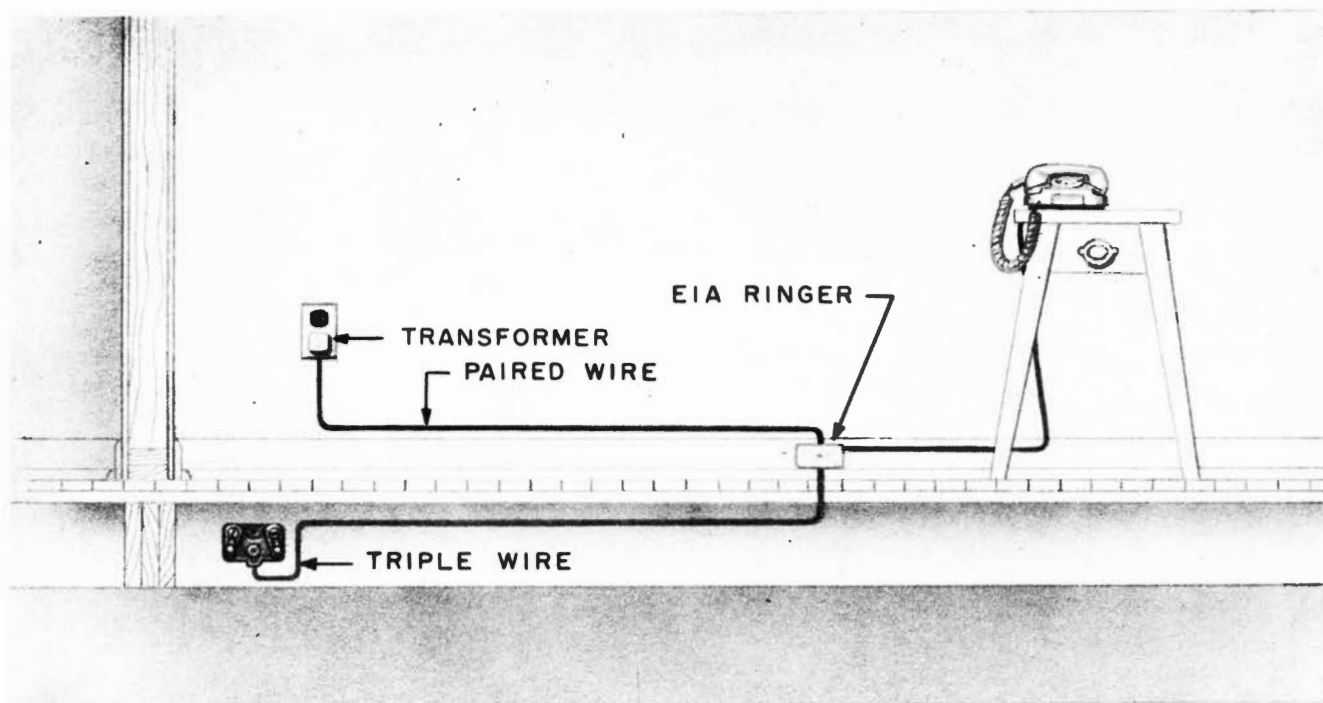

Fig. 1—Typical Installation of 701B Telephone Set
- A typical installation is shown in Fig. 1.